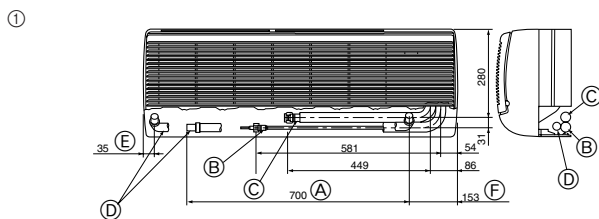
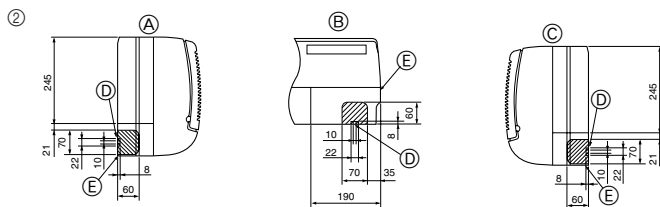

Fig. 4-2
Fig. 4-3
① Position of refrigerant and drain piping (Fig. 4-2)
- (A) Total length of flexible hose
- (B) Liquid pipe
- (C) Gas pipe
- (D) Drain hose
- (E) Left-side piping
- (F) Right-side piping
② Determine the position of the knockout holes on the unit body. (Fig. 4-3)